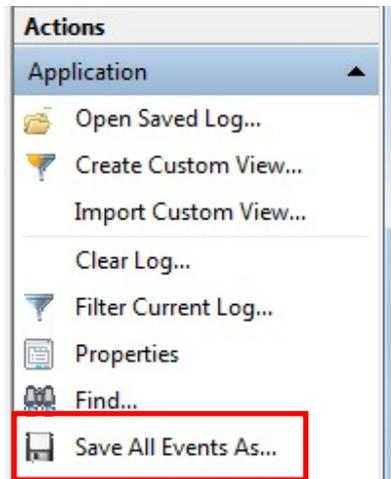

Fig 3-26
18. In the right pane of **Computer Management**, select **Save All Events As...** (Fig 3-26)